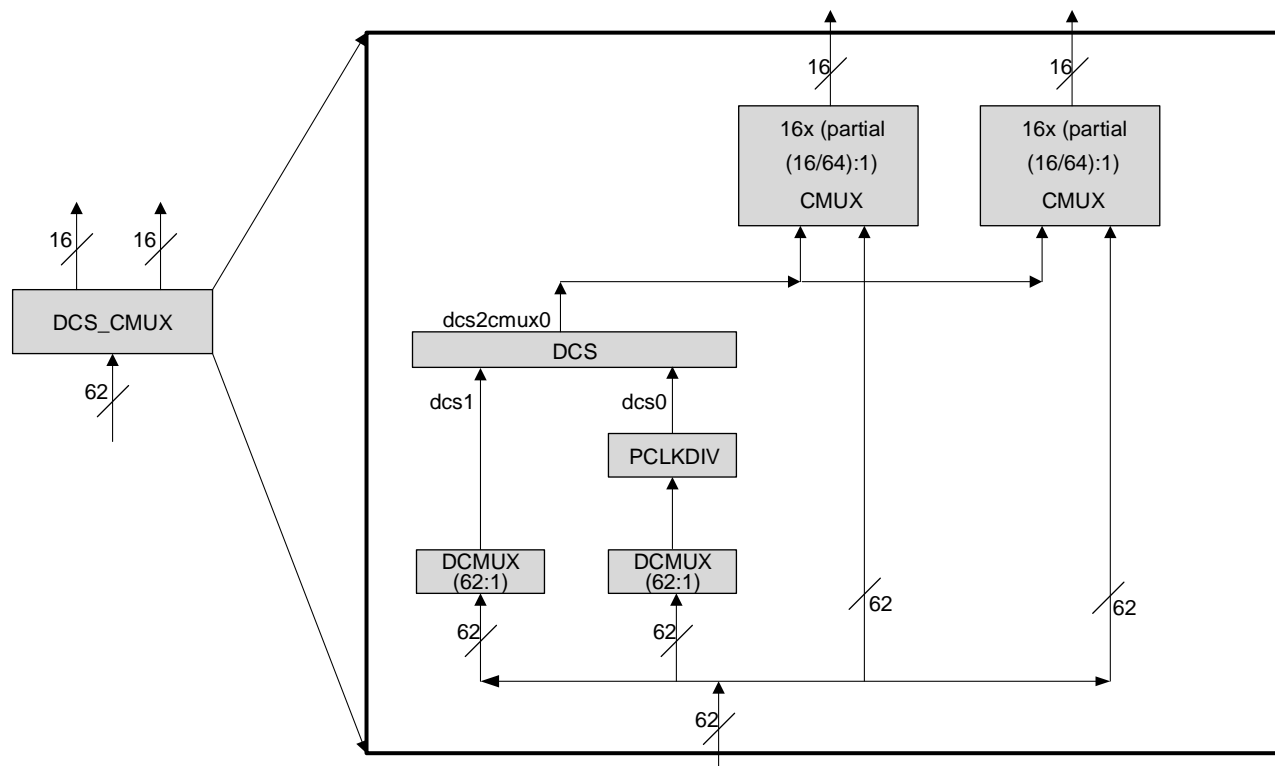

Figure 2.9. DCS_CMUX Diagram
The PCLKDIV supports $\div 2$, $\div 4$, $\div 8$, $\div 16$, $\div 32$, $\div 64$, $\div 128$, and $\div 1$ (bypass) operation. The PCLKDIV is fed from a DCSDMUX within the DCS_CMUX block. The clock divider output drives one input of the DCS Dynamic Clock Select within the DCS_CMUX block. The Reset (RST) control signal is asynchronously and forces all outputs to low. The divider output starts at next cycle after the reset is synchronously released. The PCLKDIV is shown in context in Figure 2.9.
All clock sources are selected and combined for primary clock routing through the Dynamic Clock Selector Center Multiplexor logic (DCS_CMUX). There are one (1) or two (2) DCS_CMUX blocks per device. Each DCS_CMUX block contains 2 DCSMUX blocks, 1 PCLKDIV, 1 DCS block, and 1 or 2 CMUX blocks. See Figure 2.9 for a representative DCS_CMUX block diagram.